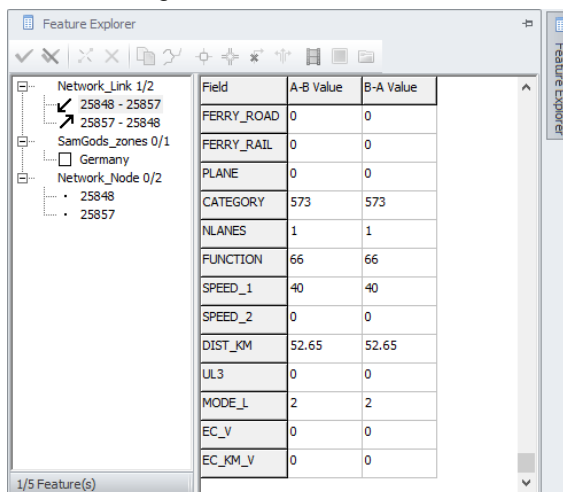

Figure 59 Feature Explorer window
- Visualize the attributes for a specific selected element – after an element has been selected using the “Select Features” tool (see first bullet above), the attributes will be displayed in the Feature Explorer window, see Figure 59. In the Edit mode, it is also possible to edit and save the new values directly in the Feature Explorer window. To change to Edit mode, click on Editor -> Start Editing on the Editor toolbar.